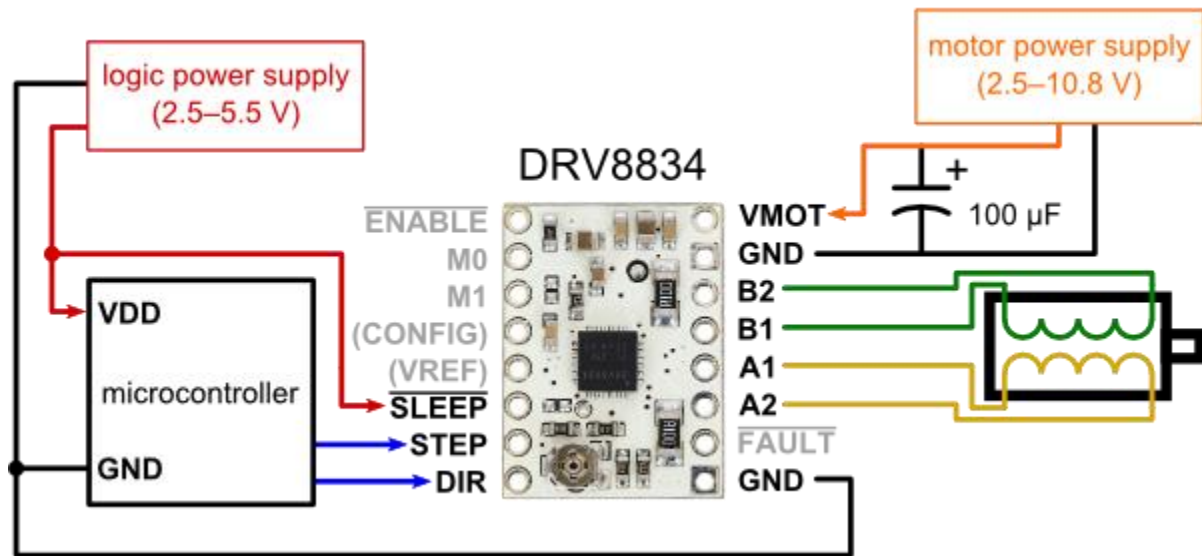

Figure 1. Stepper Motor Circuit.
- We are struggling to get consistent behavior from the voltage potentiometer that controls  $V_{REF}$  (and therefore controls the current limit) inside of our stepper motor driver (DRV8834). We set the motor up following the circuit in Figure 1, which was attained from the official product's website. We also followed an instructional video on the site, but the voltage on the potentiometer seems to jump from 0-3 millivolts and 1.0-1.6 volts in a random fashion. We have tried using another chip, double checking the capacitor's capacitance, and re-wiring the circuit – all chips give the same behavior. We know from the website that we need  $V_{REF} = 1$  volt for each stepper since  $\text{Current Limit (in amps)} = 2 * V_{REF}$  (In volts). The circuit in Figure 1 is vague as to if the two ground connections shown are isolated or not, but we have tried both and neither work (Two grounds in one circuit seems weird, anyway). We are fearful to proceed until the current limit inside the chip is set, since it could blow the motor if incorrect (or worse, the Raspberry Pi). We are out of ideas for proceeding with this, so we have contacted the TAs via email.